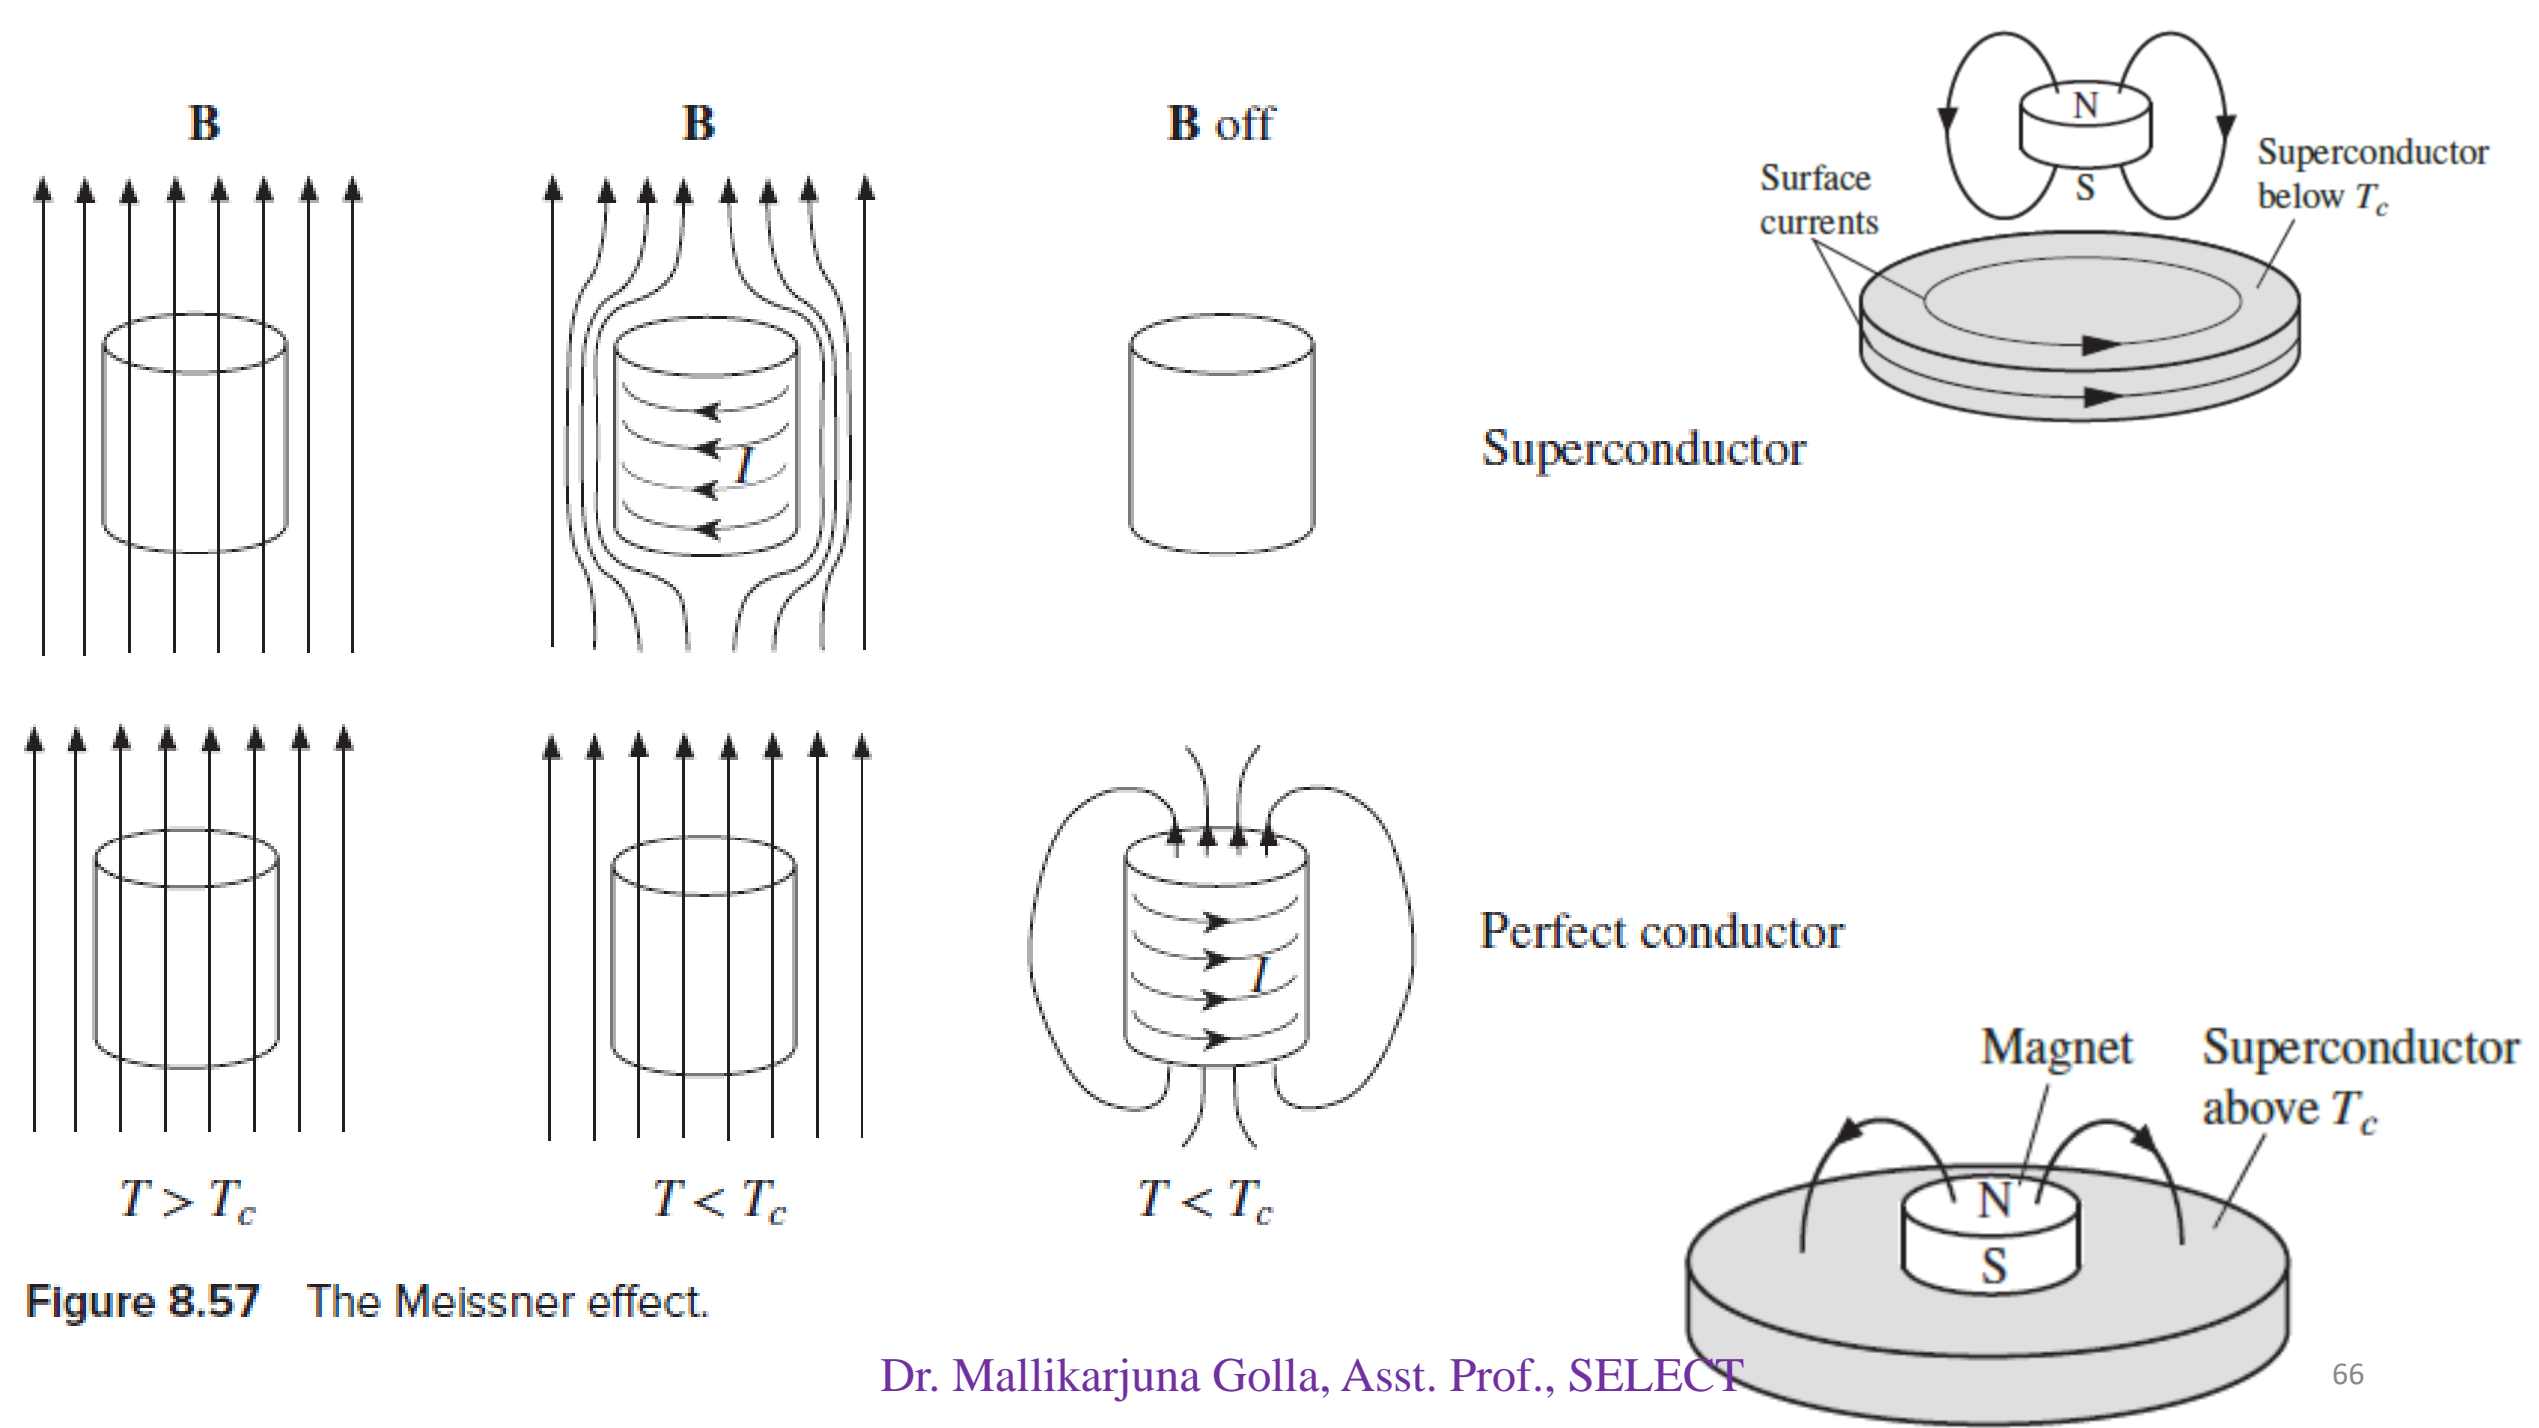

Figure 8.57 The Meissner effect.
- However, **when the superconductor is cooled below T_c** , it rejects all the magnetic flux in the sample, as depicted in Figure 8.57. The superconductor develops a magnetization M by developing surface currents.